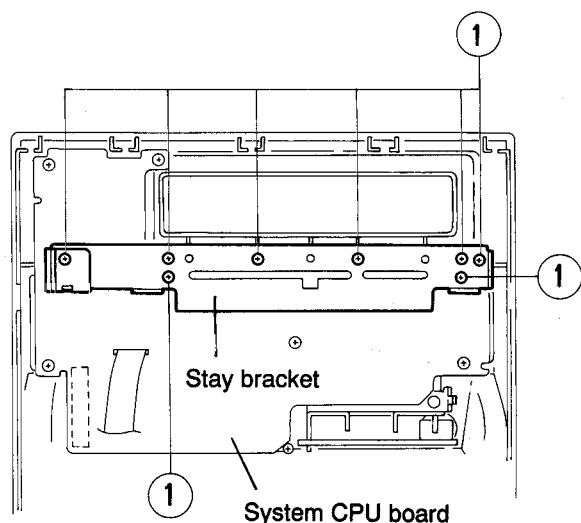

Fig.5-21
6. Remove the eight screws ① fastening the stay bracket inside the front panel assembly. (See Fig. 5-21)